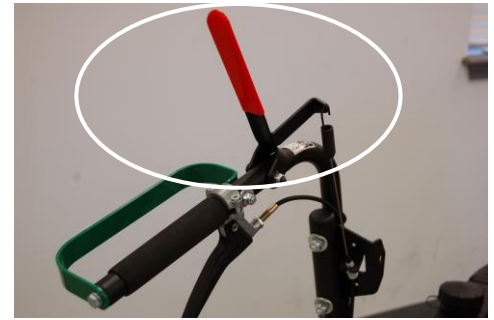

Fig. 4 Left Handle
1. Press blade clutch handle down (See Fig. 4) to engage blade. Allow blade to spin up to normal operating speed.
2. Release blade clutch handle (Fig. 4) to disengage blade.